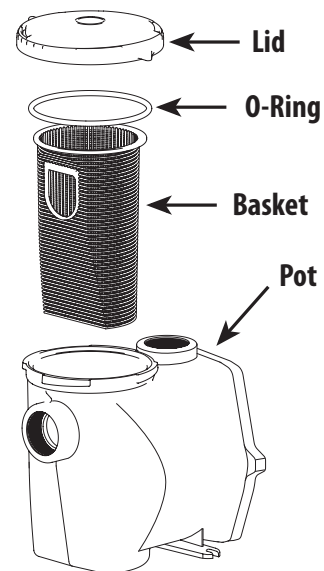

FIGURE 1
8. Reinstall the lid (Figure 1).